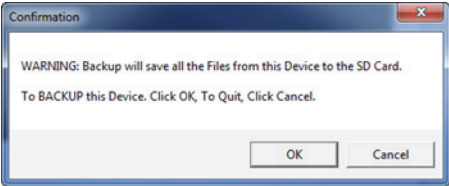

Figure 6-31 The Confirmation dialog box to confirm backup start
- 5. When the **Confirmation** dialog box appears (see Figure 6-31 on page 331), click **OK** to start the backup process.